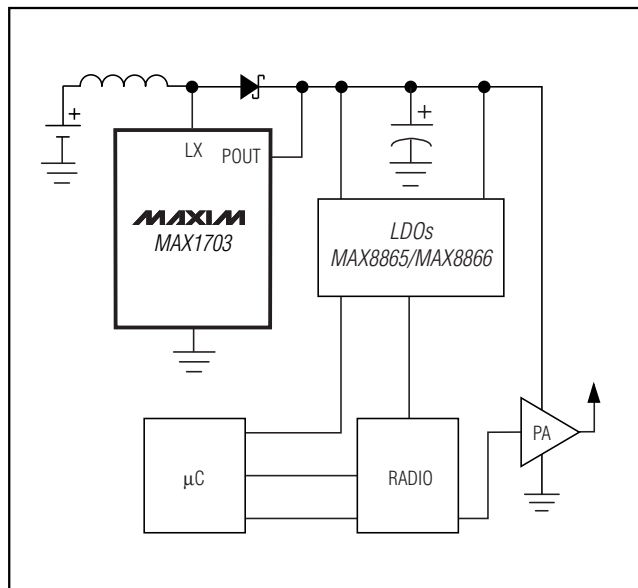

Figure 8. Typical Phone Application
The MAX1703 is ideal for use in digital cordless and PCS phones. The power amplifier (PA) is connected directly to the boost-converter output for maximum voltage swing (Figure 8). Low-dropout linear regulators are used for post-regulation to generate low-noise power for DSP, control, and RF circuitry. Typically, RF phones spend most of their life in standby mode with only short periods in transmit/receive mode. During standby, maximize battery life by setting CLK/SEL = 0; this places the IC in low-power mode (for the lowest quiescent power consumption). See *Gain Block* section for information on configuring an external MOSFET as a linear regulator.